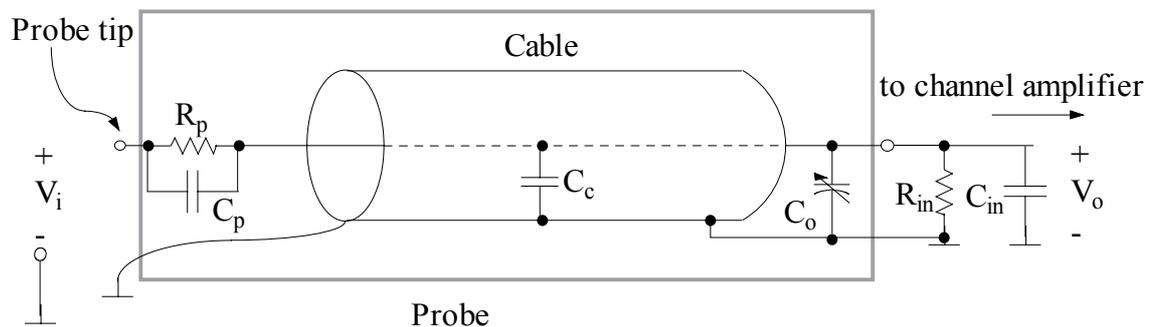

Figure 3.34 Probe model and probe compensation
3. Compensate both of your oscilloscope probes. First consider the equivalent circuit of scope front end. The oscilloscope channel amplifier and a typical probe can be modeled as shown in Figure 3.34. The input impedance of the channel amplifier is always written on the oscilloscope, just next to the channel amplifier probe connector. Read the values of R_{in} and C_{in} .